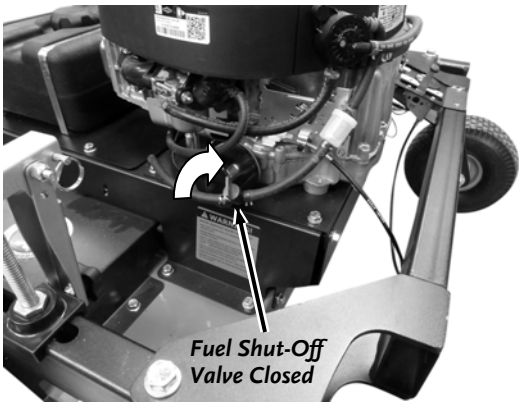

Figure 43
1. **Mow Pro-60 model only:** Turn the Fuel Shut-Off Valve to the Closed position (Figure 43).